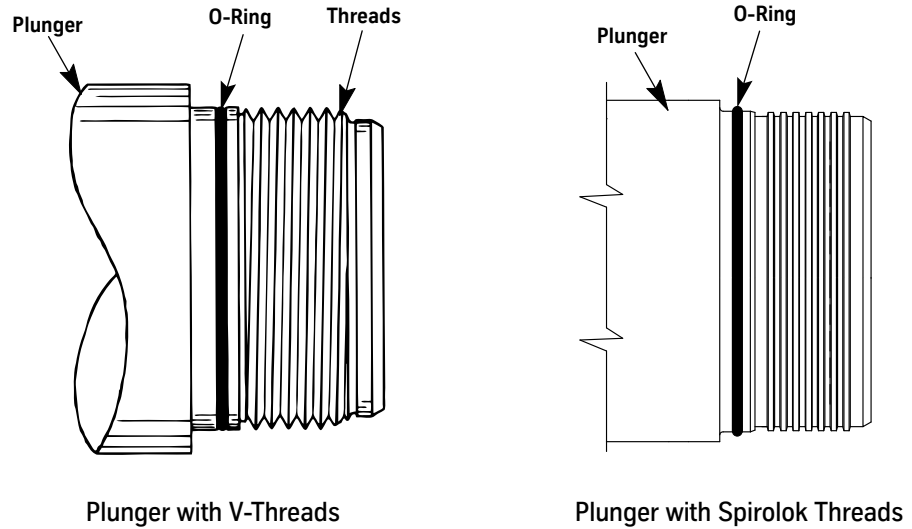

Figure 14 - O-Ring on Plunger Threads
7. Lubricate the o-ring with oil, pass it over the plunger threads, and mount the o-ring in the o-ring groove. See Figure 14 on page 1-15.